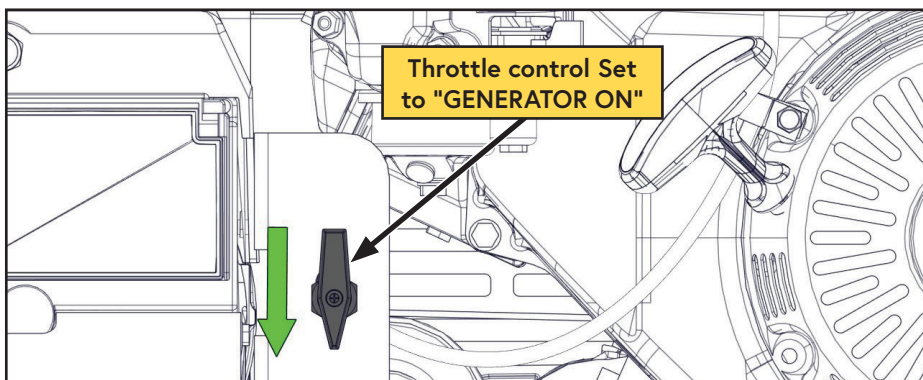

Figure 26 — Throttle control valve
- ☐ Turn the throttle control valve to "GENERATOR ON" (Figure 26).